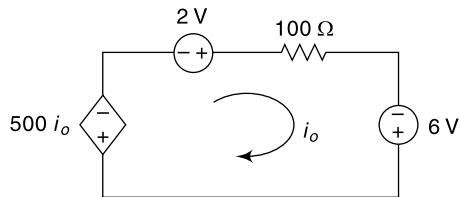

Fig. 4.145 Circuit of Ex. 4.114
4.114 Find the power dissipated in the 100Ω resistor and find the voltage rating of the dependent source in Fig. 4.145.